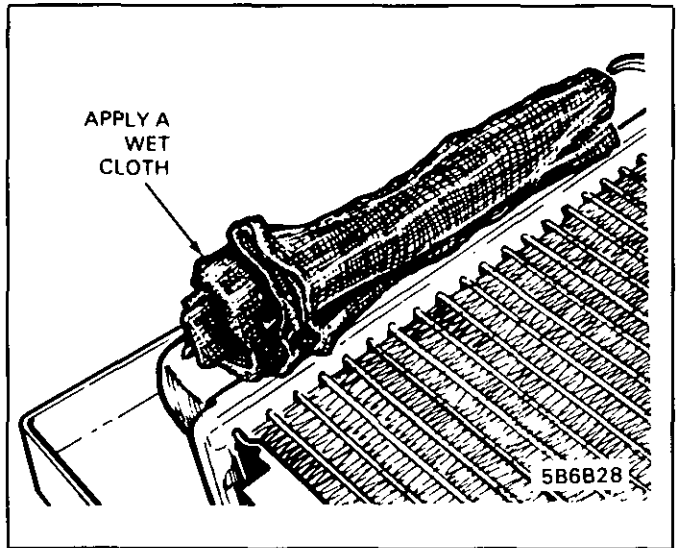
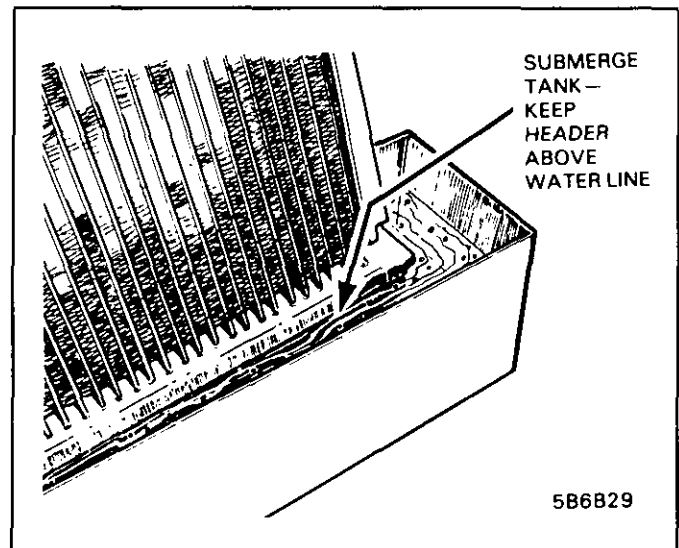

Fig. 28 Using Wet Cloth on Side Tank
Fig. 29 Submerging Side Tank
damp cloth can be placed against the side tank where the repair has to be made (Fig. 28). The side tank can also be submerged in a tank of water up to the header (Fig. 29).
2. Apply a wet cloth if you are working near the plastic tanks or the joints between the core tubes and header (Fig. 28); or submerge the tank in water (Fig. 29).